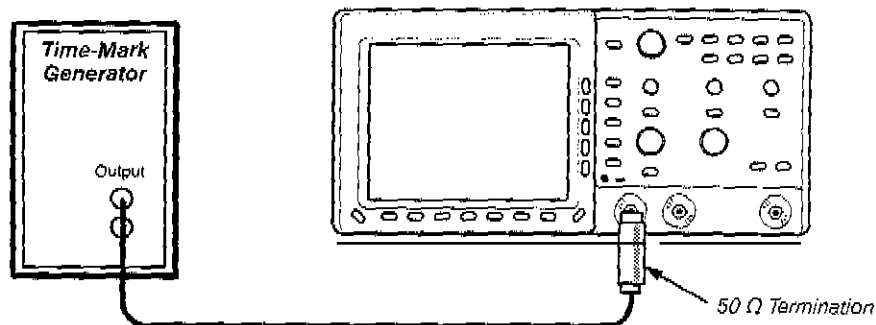

Figure 6-7: Hookup for Sample Rate Check
1. Connect, through a 50 Ω precision coaxial cable and a 50 Ω termination, the time-mark output of a time-marker generator to **CH 1**, as shown in Figure 6-7. Set the output of the generator for 10 ms markers.